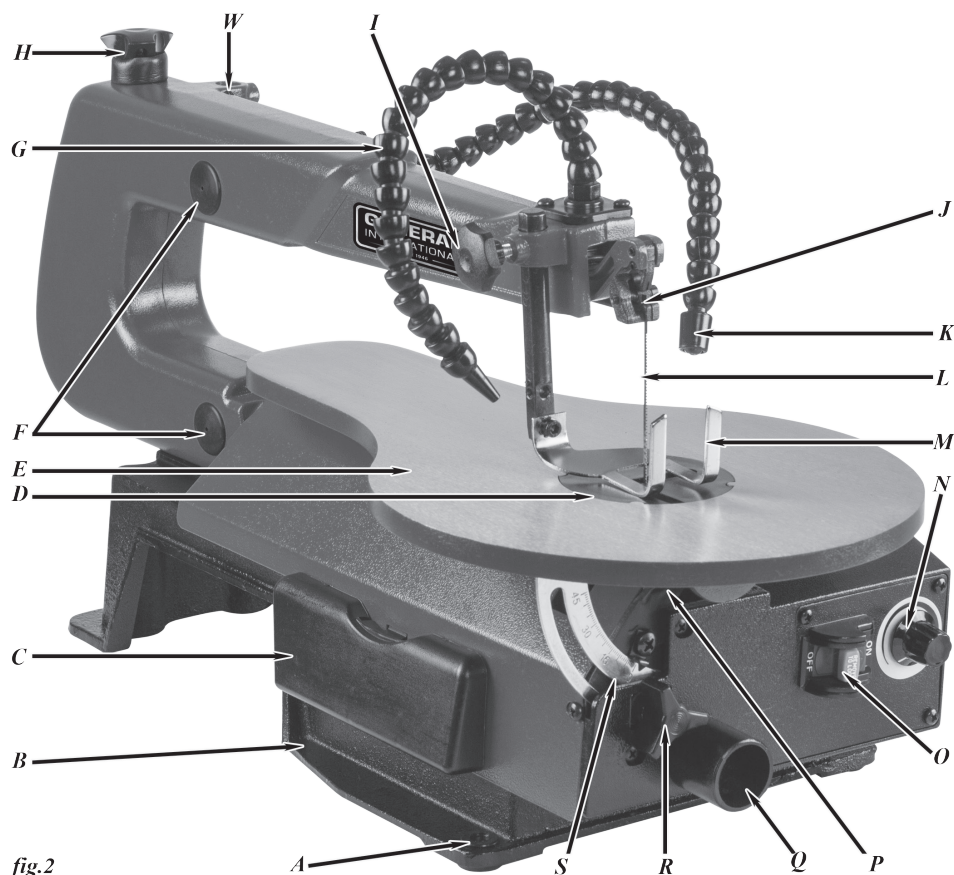

fig.2
3. Loosen the table bevel lock knob (R, fig 2 & 3) and move the table until it is at a right angle to the blade. Use a combination square to set the table exactly 90° to the blade.
2. Loosen the blade guard / foot lock knob (I, fig 2 & 3) to raise or lower the foot until it just rests on top of the workpiece.
1. Release blade tension by loosening the blade tension knob (H, fig 2 & 3).
10. To tension the blade, tighten the blade tension knob (H, fig 2 & 3). Make sure the blade is properly located in the blade holders. Turn the blade tension knob until light finger pressure on the side of the blade moves it about 1/8" (3 mm). This amount of blade pressure should do well for most cutting operations.
1. To turn the saw ON, move the switch (O, fig 2 & 3) to the (ON) position.
1. Your saw is equipped with a variable speed dial (N, fig 2 & 3).